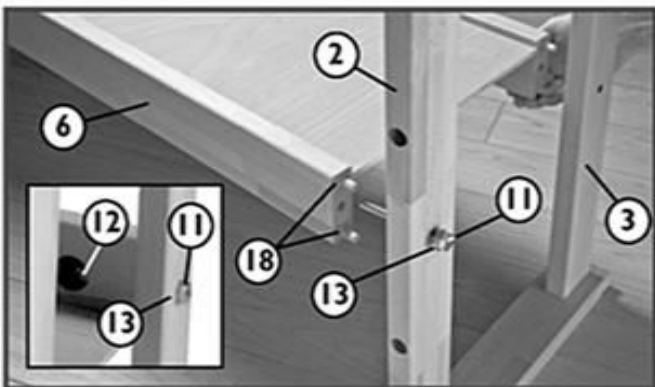

Fig. 3
- Use two Dowels (18), an M-12 x 100 Hex Bolt (11), a Washer (13) and an M-12 Nut (12) to attach each Middle Stretcher (6) to the leg assembly (Fig. 3). The Middle Stretcher assembly can be mounted with the Center Shelf (7) on the top (as in Fig. 3) or bottom (as in Fig. 3 inset photo). Make sure the bench dog holes in the legs are all facing forward. Repeat this process for the other leg assembly.